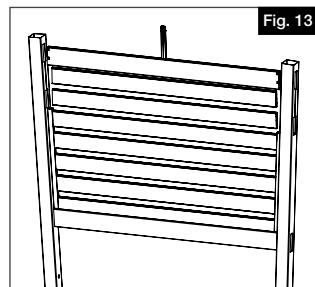

Fig. 13
- Install infill boards horizontally as shown and pre-assembled midrail with stiles (Fig. 13).